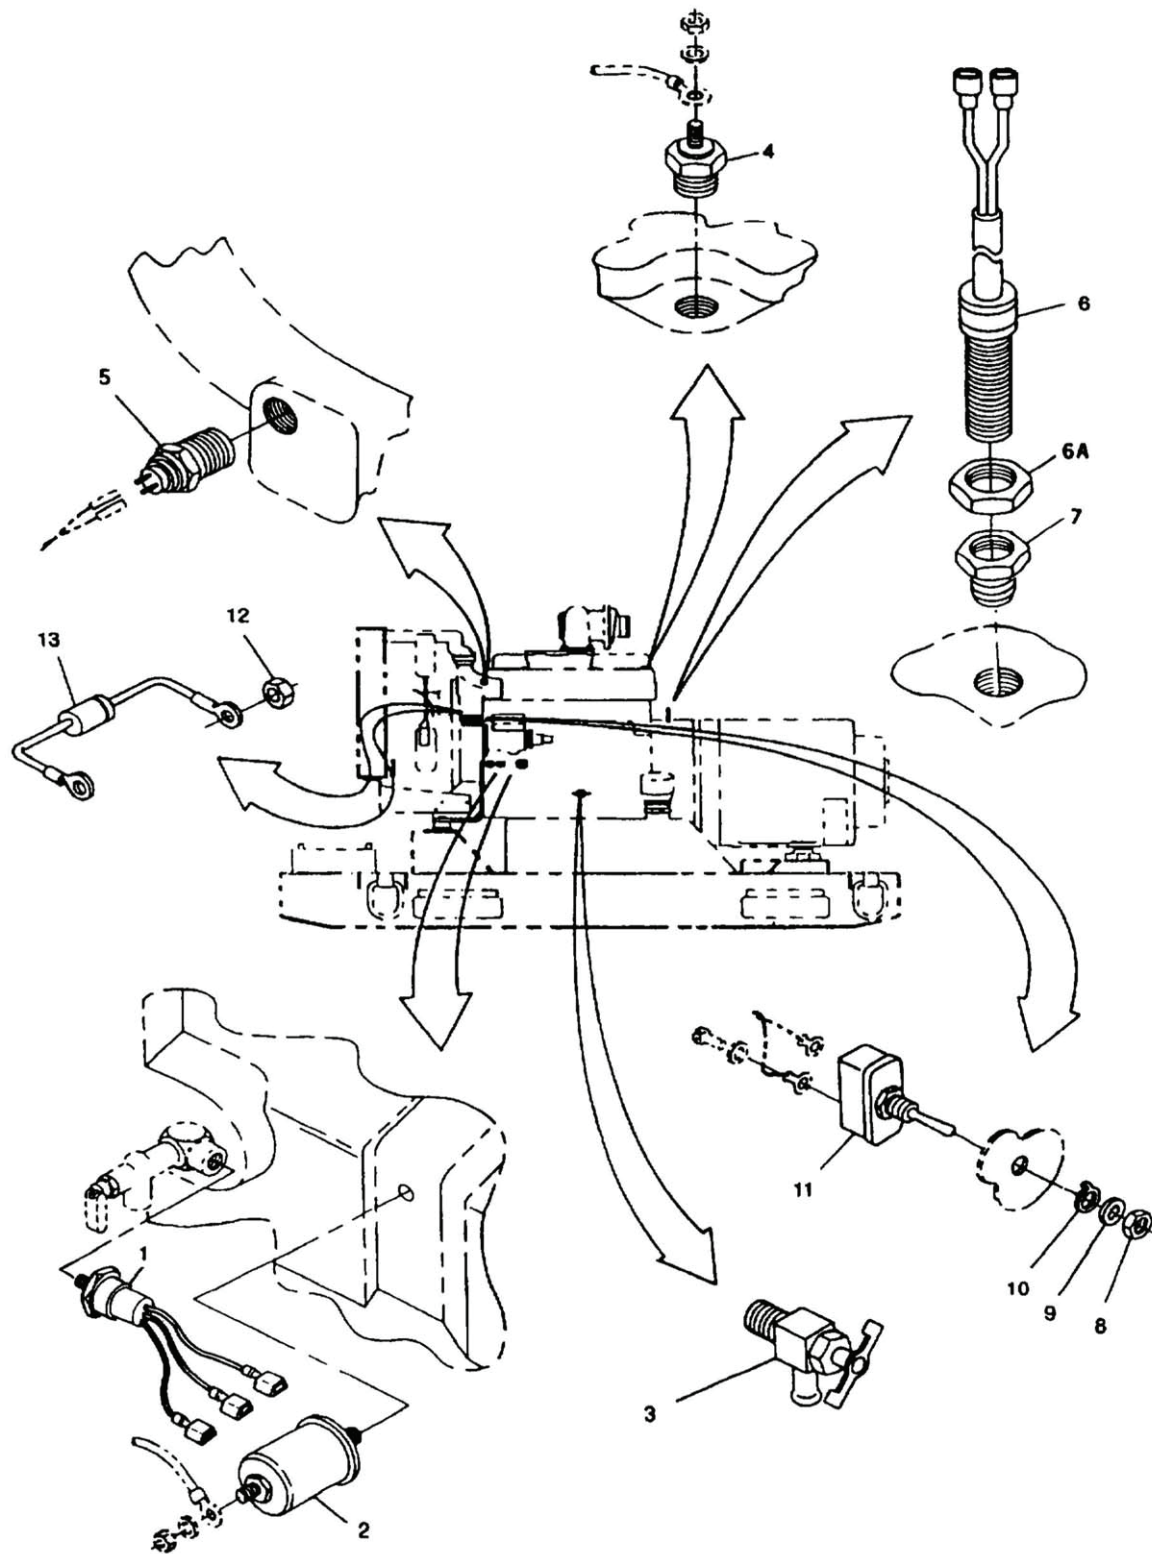

Figure 1. Engine Switches and Senders.
3. Tag and disconnect electrical leads from low oil pressure switch (Figure 1, Item 1).
12. If switch fails to meet continuity requirements, replace low oil pressure switch (1).
13. If replacement is not needed, connect electrical leads to low oil pressure switch (1). Remove tags and close left side engine access doors.
3. Tag and disconnect low oil pressure switch (Figure 1, Item 1) electrical leads.
4. Unscrew low oil pressure switch (1) from oil sample valve assembly.
2. Remove low oil pressure switch (Figure 1, Item 1) (Removal).
1. Install low oil pressure switch (Figure 1, Item 1) into oil sample valve assembly.
WP 0110, Figure 1, Item 2)
3. Disconnect electrical lead to oil pressure sender (WP 0110, Figure 1, Item 2).
10. Replace oil pressure sender (2) if indications are not as above.
11. If replacement is not needed, connect electrical lead to oil pressure sender (2).
3. Disconnect oil pressure sender (WP 0110, Figure 1, Item 2) electrical lead.
4. Unscrew and remove oil pressure sender (2) from engine block.
2. Remove oil pressure sender (WP 0110, Figure 1, Item 2) (Removal).
3. Clean oil pressure sender (2) with dry, filtered compressed air and wipe with a cleaning cloth (WP 0159, Item 9) lightly moistened with dry cleaning solvent (WP 0159, Item 21).
1. Screw oil pressure sender (WP 0110, Figure 1, Item 2) into engine block.
WP 0076, Figure 1, Item 1
WP 0078, Figure 1, Item 28
WP 0110, Figure 1, Items: 3 & 4
3. Disconnect electrical lead from coolant temperature sender (WP 0110, Figure 1, Item 4).
9. Replace coolant temperature sender (4) if indications are not as above.